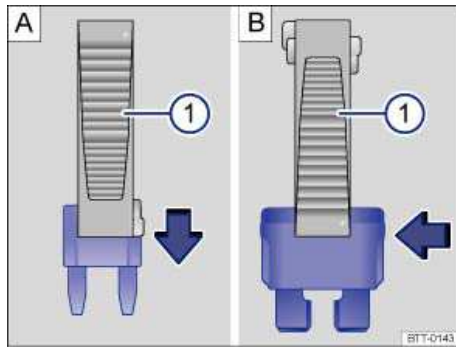

Fig. 175 Removing or installing a blade fuse with the plastic tweezers: A: MINI. B: ATO.
- *For blade fuses:* Depending on the type of fuse, slide the tweezers ⇒ fig. 175 A \(1\) or B \(1\) onto the fuse in the direction of the arrow.